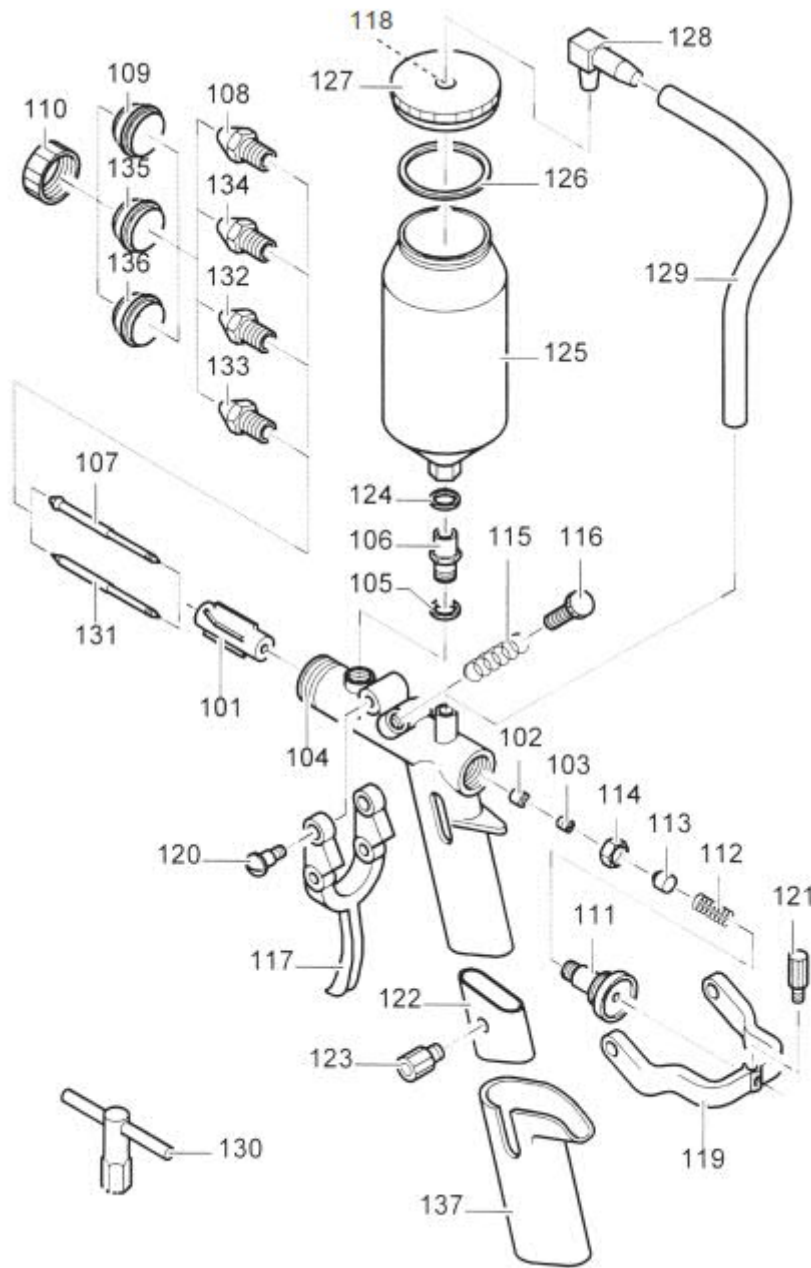
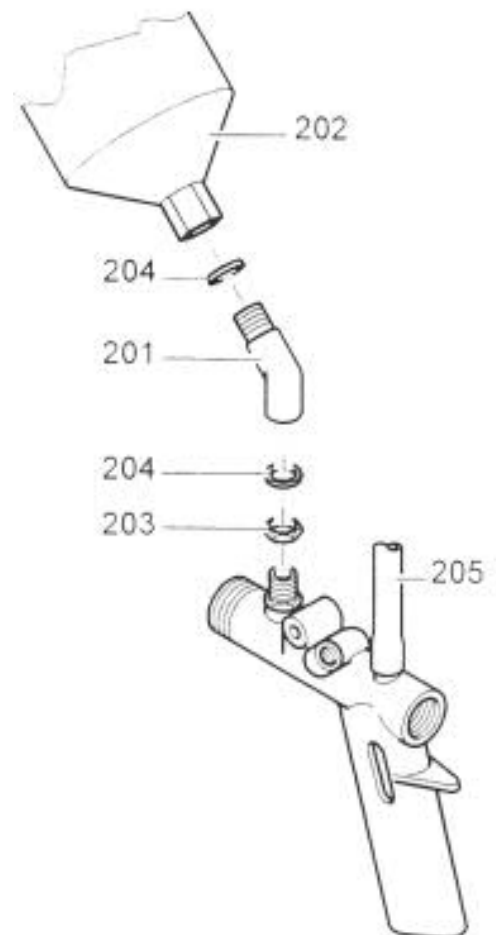

Figure 3
Figure 5
Dried paint residues on the air-head pos. 109 (also pos. 135, 136) on figure 3 should not be scratched off with a hard object. Immerse the air-head into a thinner for few minutes and then remove the residual with a brush.
Attention! After working with water-soluble paints such as acrylic paints, dispersions or binder emulsions, the nozzle, nozzle-needle, trigger and the thread of the spring bushing (figure 3, pos. 111) should be lightly oiled after cleaning.
Unscrew the nozzle coupling nut (figure 3, pos. 110) and then remove the air head (pos. 109). The nozzle is exchanged with the supplied nozzle spanner (pos. 130). Grease the thread of the new nozzle before it is screwed in. The nozzle should only be lightly tightened.
To exchange the stuffing box (figure3, pos. 102) fulfill the following steps:
- 2) Adjust the air slide (figure 3, pos. 122) downwards.
- 3) Use a screwdriver to unscrew the slotted screw (pos. 103).
- 1) Unscrew the nozzle coupling nut (figure 3, pos. 110); remove the air head (pos. 109); unscrew the nozzle (pos. 108); release the locking screw (pos. 121); pull back the trigger bracket (pos. 119) and fold upwards; unscrew the terminating screw (pos. 111).
- 2) Pull the nozzle needle (pos. 107) out to the front.
- 3) Unscrew the paint container (pos. 125) and the transition adapter (pos. 106).
- 4) When the crosspiece (pos. 101) is loosed, push the slide (pos. 122) downwards.
- 5) Push out the crosspiece (pos. 101) to the front.
- 6) Unscrew the slotted screw (pos. 103) out of the crosspiece.
- 7) Insert a new crosspiece with a new O-ring (pos. 102) and slotted screw (pos. 103).
(see figure 3)
Angle piece, comp. (figure 5)	HE 301 161 77 10
- **Angle-piece for upward spraying (figure 5) (e.g. to spray ceilings)**
After unscrewing the paint container (figure 3, pos. 125) and removing the O-ring (pos. 124), the nut (figure 5, pos. 203), the O-ring (pos. 204) and the angle piece (pos. 201) are screwed onto the transition adapter, adjusted in the correct position in relation to the spray gun, and secured by tightening the nut (pos. 203). The top O-ring (pos. 204) is returned and the paint container is screwed back on. The pressure hose (figure 3, pos. 129) is replaced by a 47 cm long pressure hose (figure 5, pos. 205).